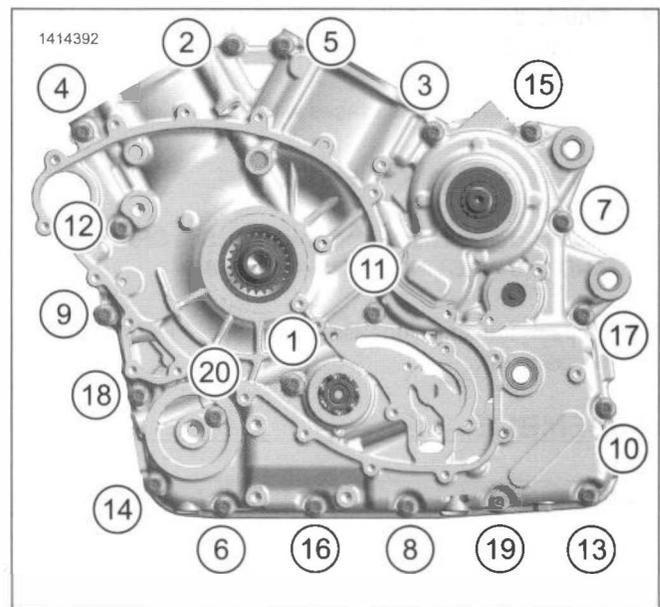

Figure 4-90. Crankcase Torque Sequence
- c. See Figure 4-90. Tighten screws in sequence.